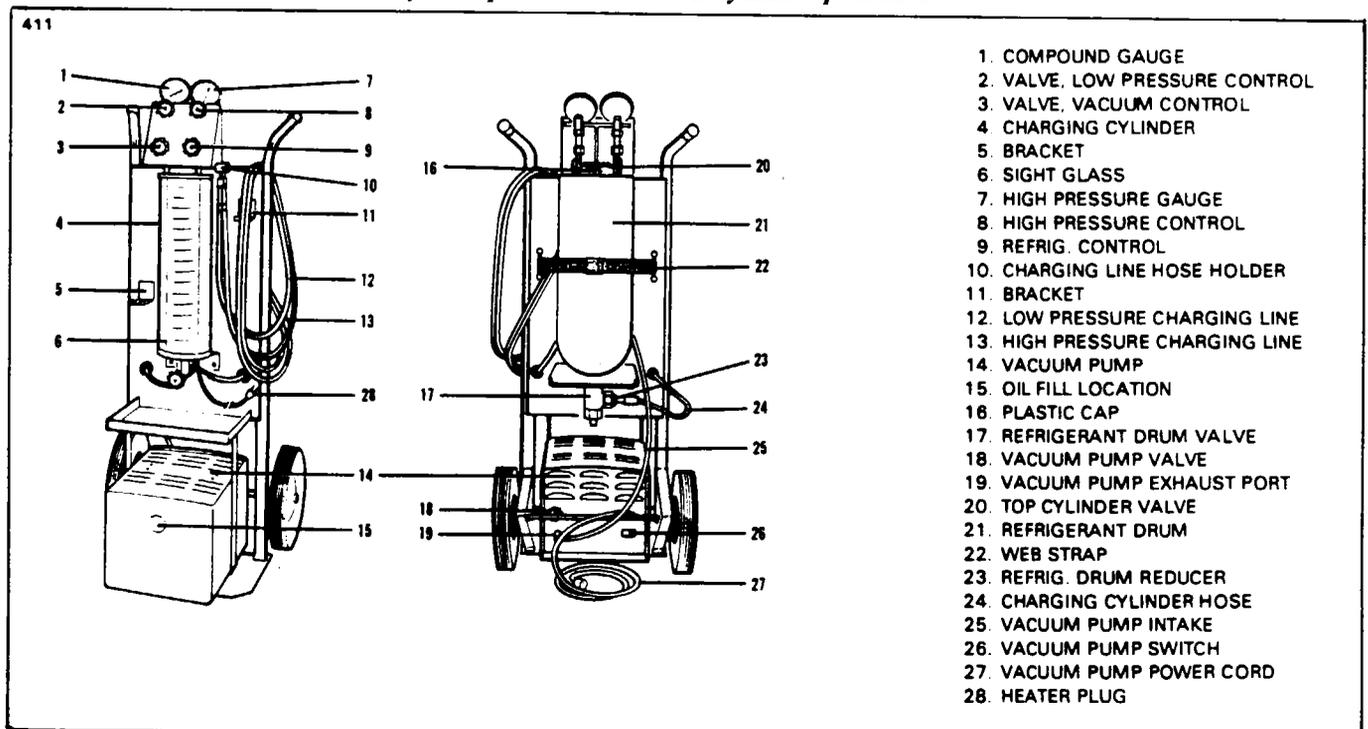

Figure 21-20. Charging Stand
*Applies to Kent Moore J8393-02 or similar charging station. Use Refrigerant 12. (Refer to Figure 21-20.)*
- C. Remove exhaust port cap and open valve on pump. Turn on pump and open the low and high pressure and vacuum control valves on the charging station. (Refer to Figure 21-20.)